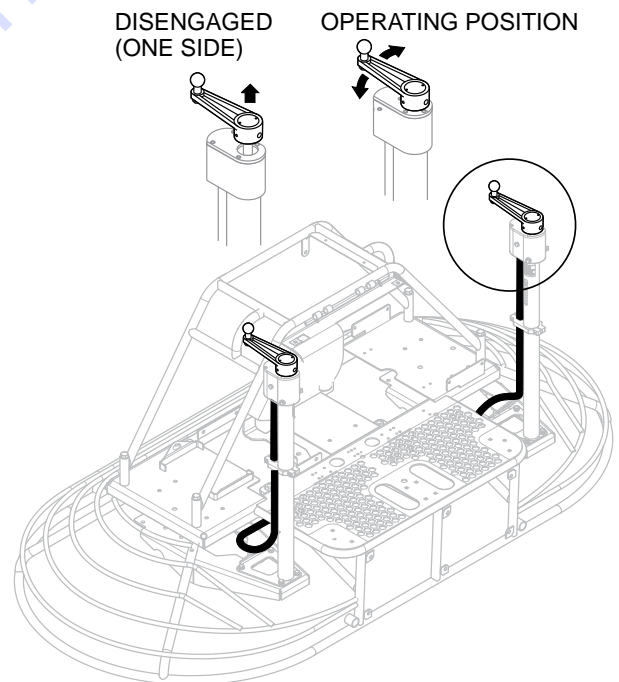

Figure 16. Pitch Towers
- Lift the pitch adjustment handle (Figure 16) on either side. Once lifted, that side is now disconnected from the Twin Pitch™ system.